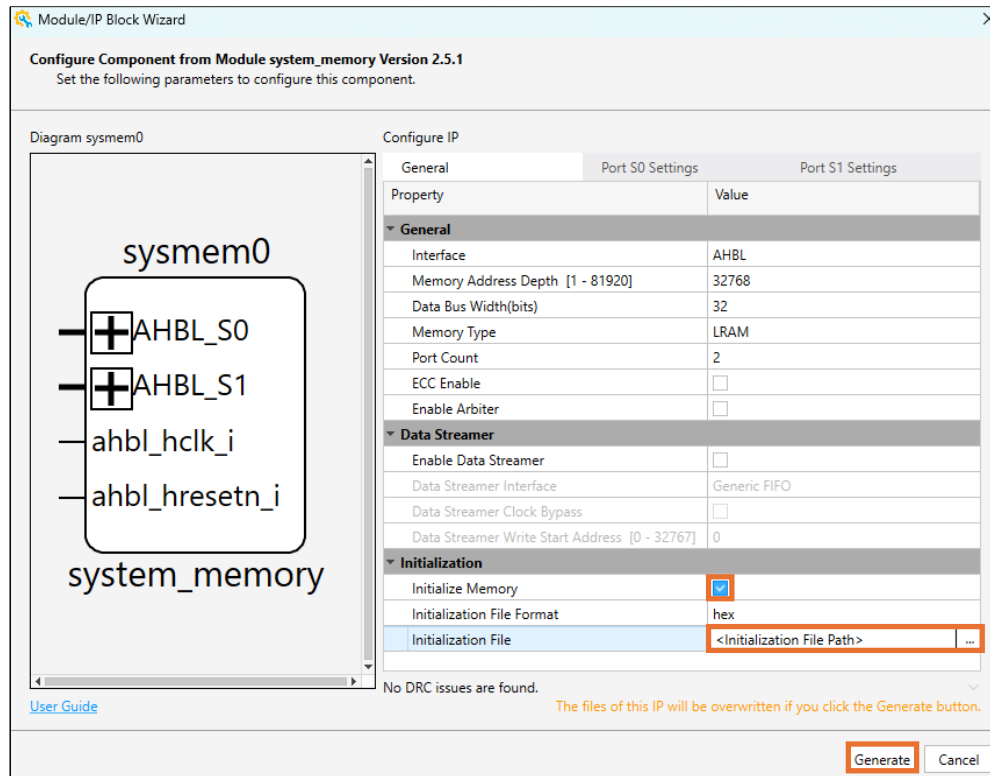

Figure 5.12. Mapping the System Memory Initialization Files
- In the Propel Builder design schematic, double-click `system0_inst` to open the `system_memory` Module/IP Block Wizard and ensure the Initialization File is mapped to `../../propelsdk/riscv_mc/Debug/riscv_mc.mem` or the latest revision of the .mem file. Then, click the **Generate** button, as shown in Figure 5.12.